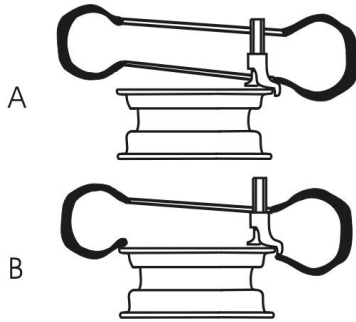

Fig. 14
- Adjust relative position between tire bead and mount/demount head, let the tire bead cross the mount/demount head. At the end of the mount/demount head, the tire bead should be placed on the mount/demount head as fig. 14-A; At the beginning of the mount/demount head, the tire bead should be placed under the ball protuberance of the mount/demount head ( as fig.14-B)